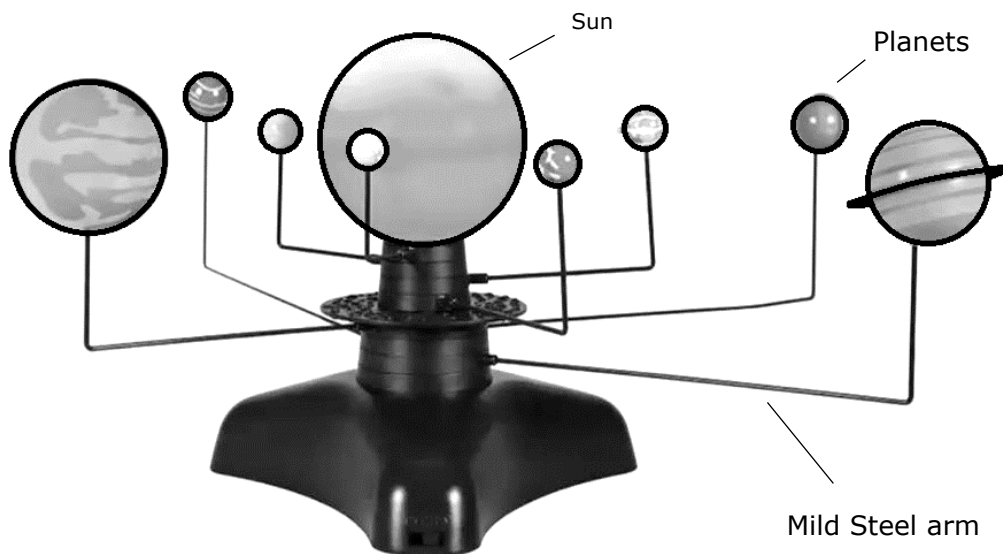

Figure 5
13. At the Science Fair the students created an educational model of the solar system as seen in Figure 5. Metal and polymers were the materials used to create the model shown.
17. The working model of the solar system, previously shown in Figure 5, was developed further.